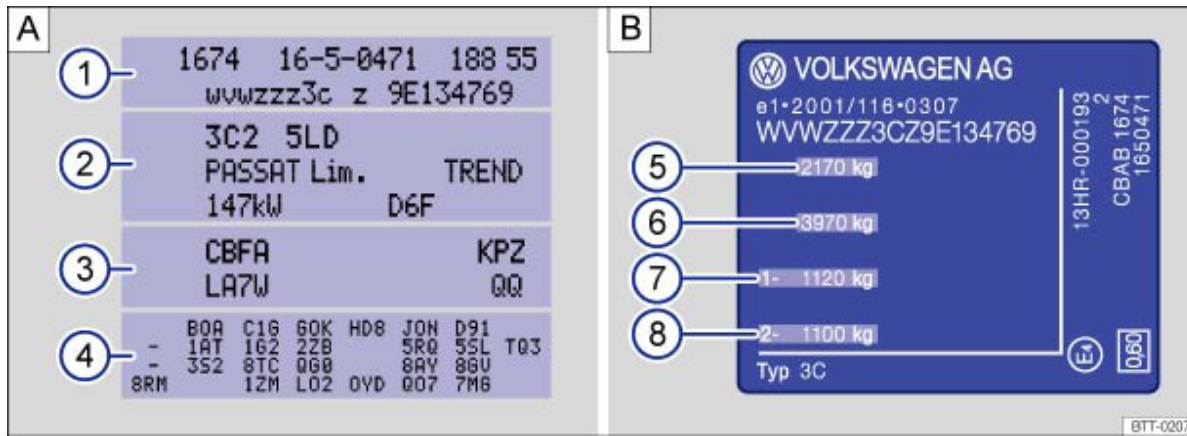

Fig. 17 (A) Vehicle data sticker: example shows a vehicle with engine code CBFA © (B) Type plate
The vehicle data sticker → Fig. 17 A is in the spare wheel well area in the luggage compartment. It contains the following data:
- 3 Engine and gearbox code, paint number, interior equipment. In the example, the engine code is CBFA → Fig. 17.
The type plate → Fig. 17 B can be seen on the lower part of the door pillar when the door is open. Vehicles for certain export countries do not have a type plate.